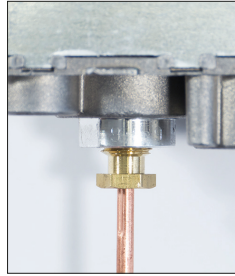

Figure 12
1. Carefully unscrew the thermocouple from the bottom valve outlet (see figure 12).